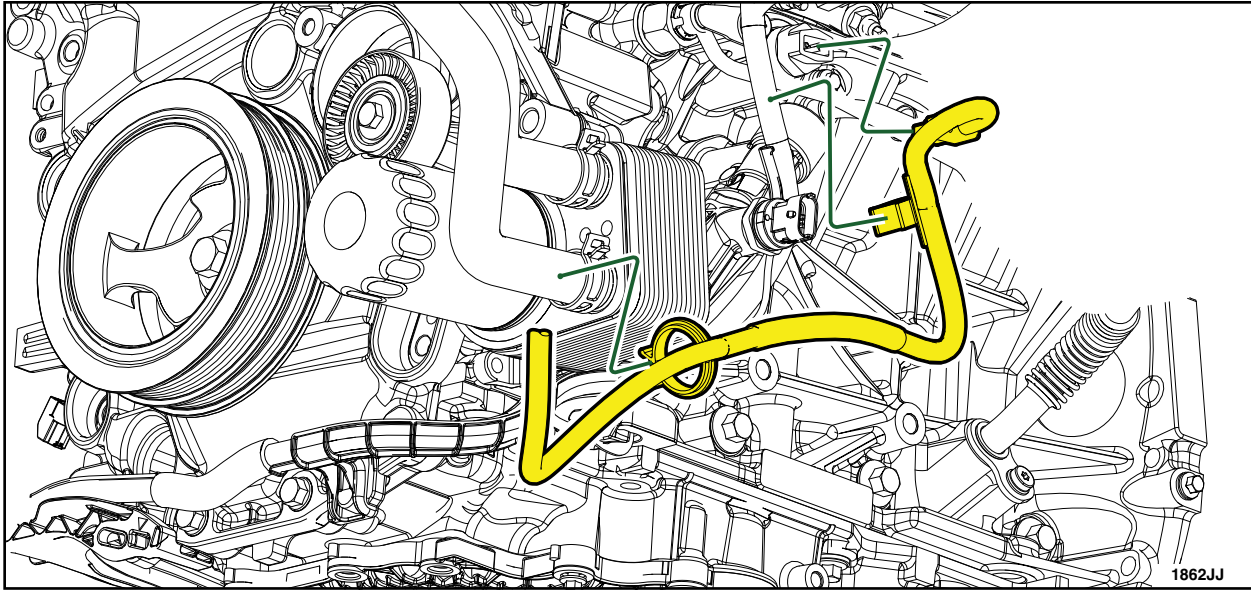

FIGURE 9a
3. Remove and discard the wire assembly. See Figures 9a, 9b and 9c.
5. Connect the wire assembly in-line connector. See Figure 9a.
6. Install the *new* wire assembly in the vehicle following the same routing as the wire assembly that is being replaced. See Figures 9a, 9b and 9c.